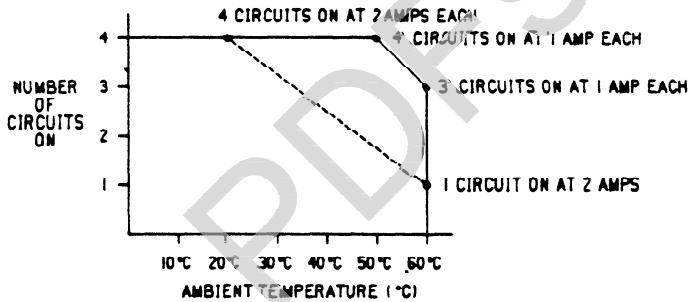

Figure 6-18. I/O Points vs Temperature Chart
* Maximum load current is dependent upon ambient temperature as shown on the chart in figure 6-18.